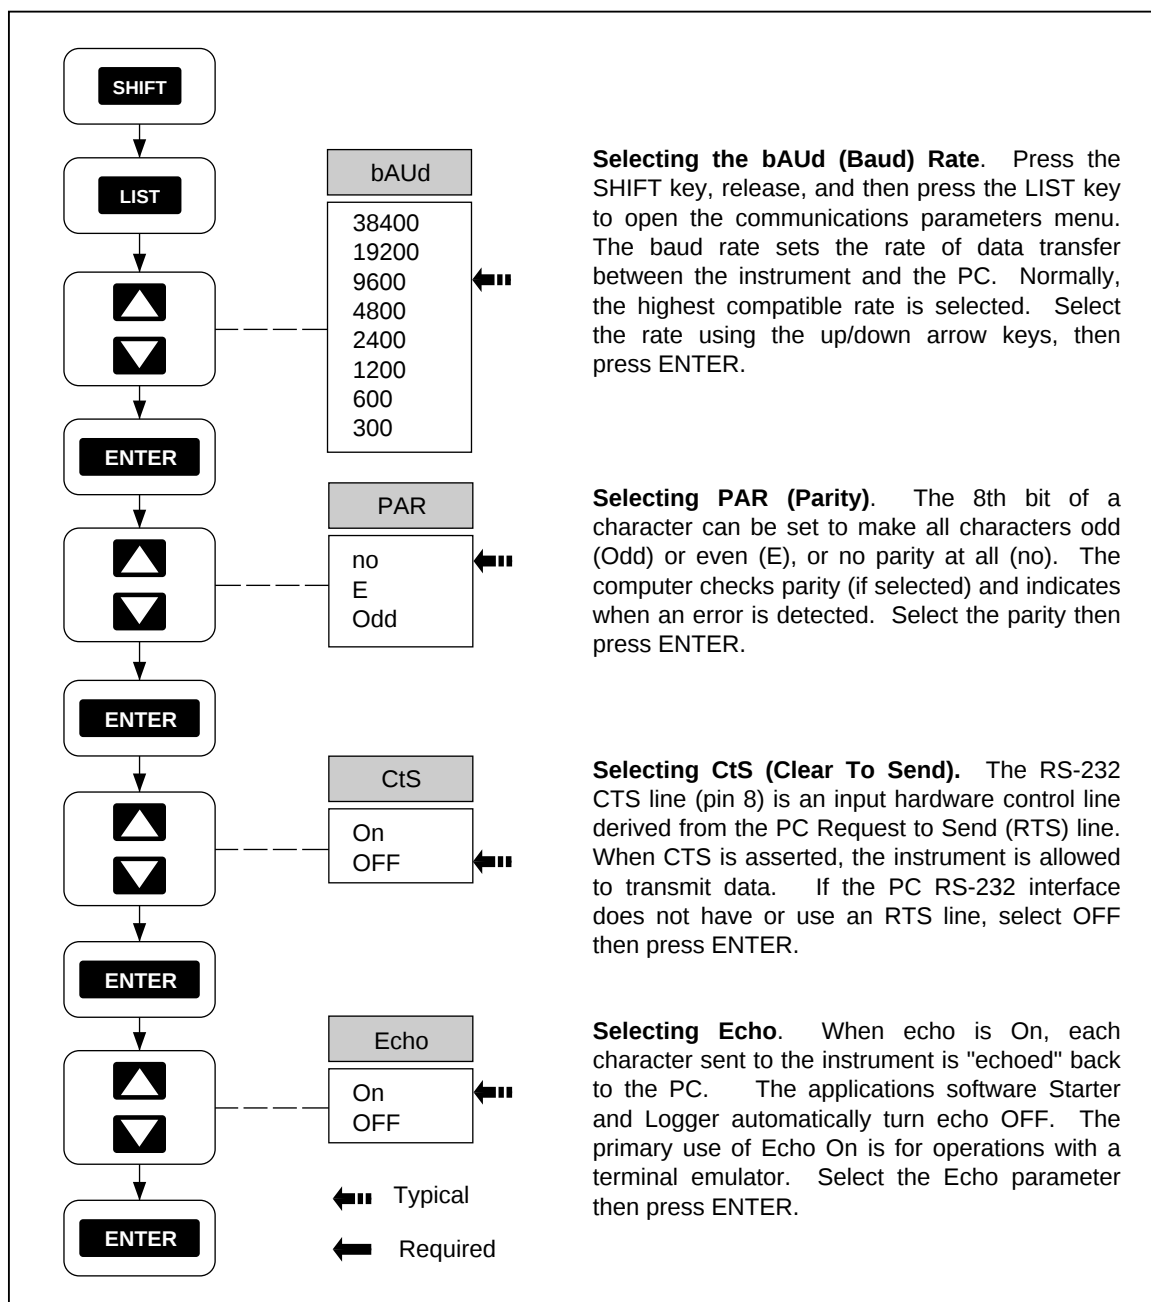

Figure 4-2. Configuring the Instrument for Computer Operations
Correct operation of the interface between the instrument and PC depends on the baud rate, parity, CTS (Clear To Send) and echo of the RS-232 interface parameters. Perform the procedure in Figure 4-2 to establish these parameters for the instrument. The instrument uses one stop bit, which is not selectable.
1. Configure the Data Bucket communication parameters, as described in Figure 4-2, for bAUD = 9600, PAR = no, CtS = OFF, and Echo = On.
5. In Terminal, request the Data Bucket to send its identification number by entering: *IDN? <Enter>. If *IDN? did not appear on the screen as the characters were entered, be sure the instrument RS-232 port is configured for Echo = On (Figure 4-2). If the wrong characters appear, there is an incompatibility in the COM port configurations (baud rate, parity, etc.). If everything seems normal, but characters still don't appear, check the RS-232 connection cable (see Appendix D). When the RS-232 link is operating correctly, the instrument returns an identification string and execution prompt similar to the following:
1. Configure the Data Bucket communication parameters, as described in Figure 4-2, for bAUd = 9600, PAR = no, CtS = OFF, and Echo = On.
4. In Terminal, request the Data Bucket to send its identification number by entering: *IDN? <Enter>. If *IDN? did not appear on the screen as the characters were entered, be sure the instrument RS-232 port is configured for Echo = On (Figure 4-2). If the wrong characters appear, there is an incompatibility in the COM port configurations (baud rate, parity, etc.). If everything seems normal, but characters still don't appear, check the RS-232 connection cable (see Appendix D). When the RS-232 link is operating correctly, the instrument returns an identification string and execution prompt similar to the following: